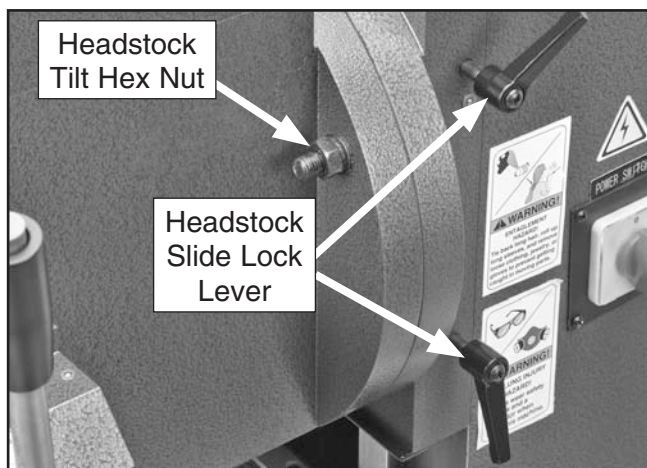

Figure 18. Headstock slide controls.
1. Unlock the headstock slide lock lever shown in **Figure 18**.